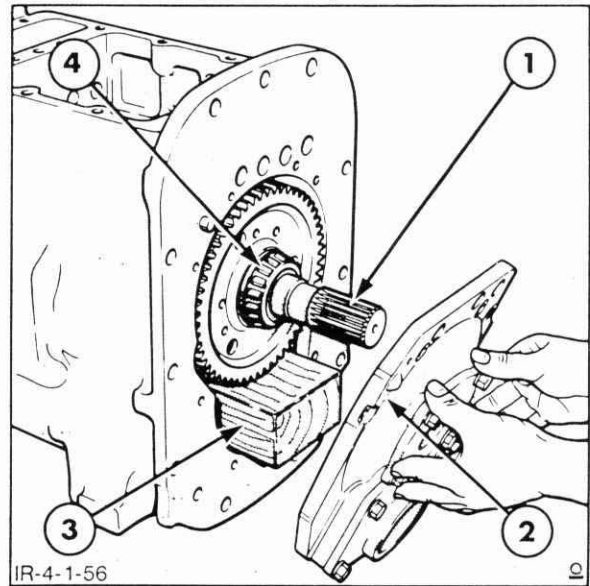

Figure 4-56
4. Install the output shaft into the transmission case from the rear end and mate up with the rear input shaft. Temporarily support the output shaft with a suitable wooden block, Figure 4-56.